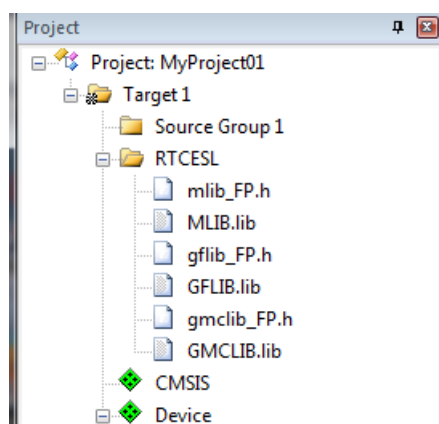

Figure 1-23. Project workspace
10. Now, all necessary files are in the project tree; see Figure 1-23. Click Close.